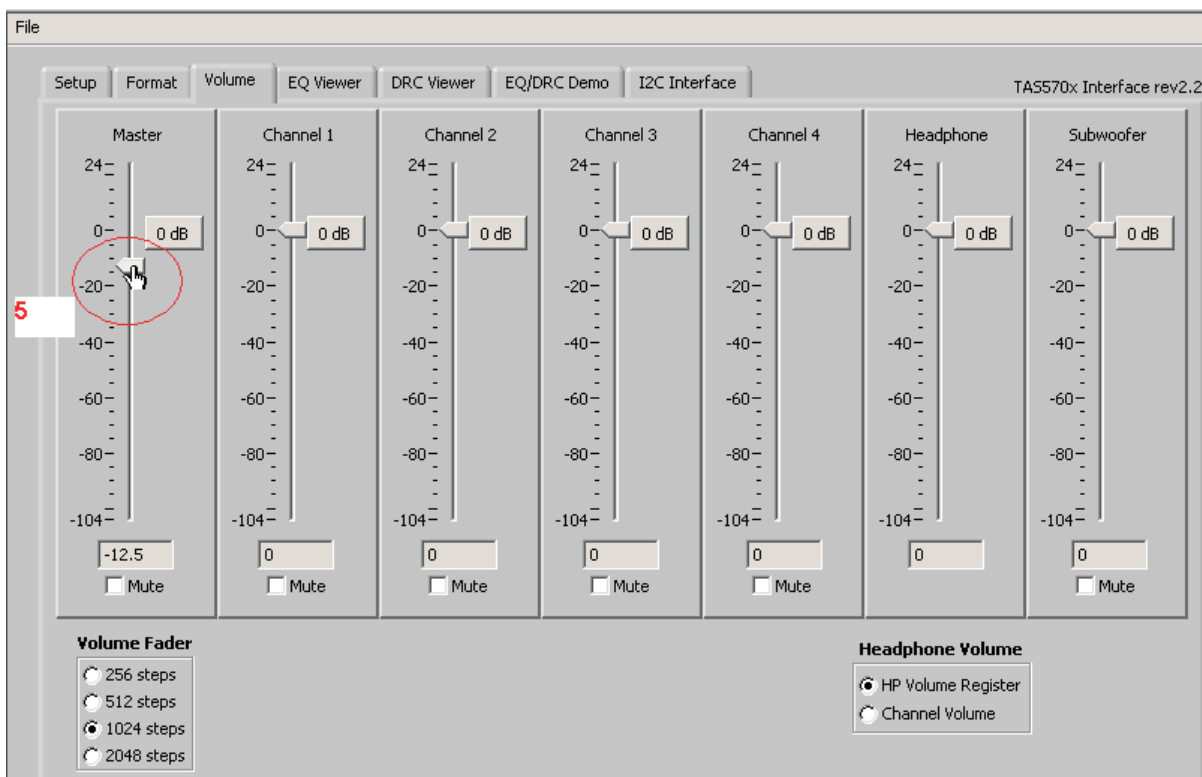

Figure 5. Volume Tab
4. Select Volume tab. Unmute master volume and slide the volume bar to preferred volume setting (see Figure 5).